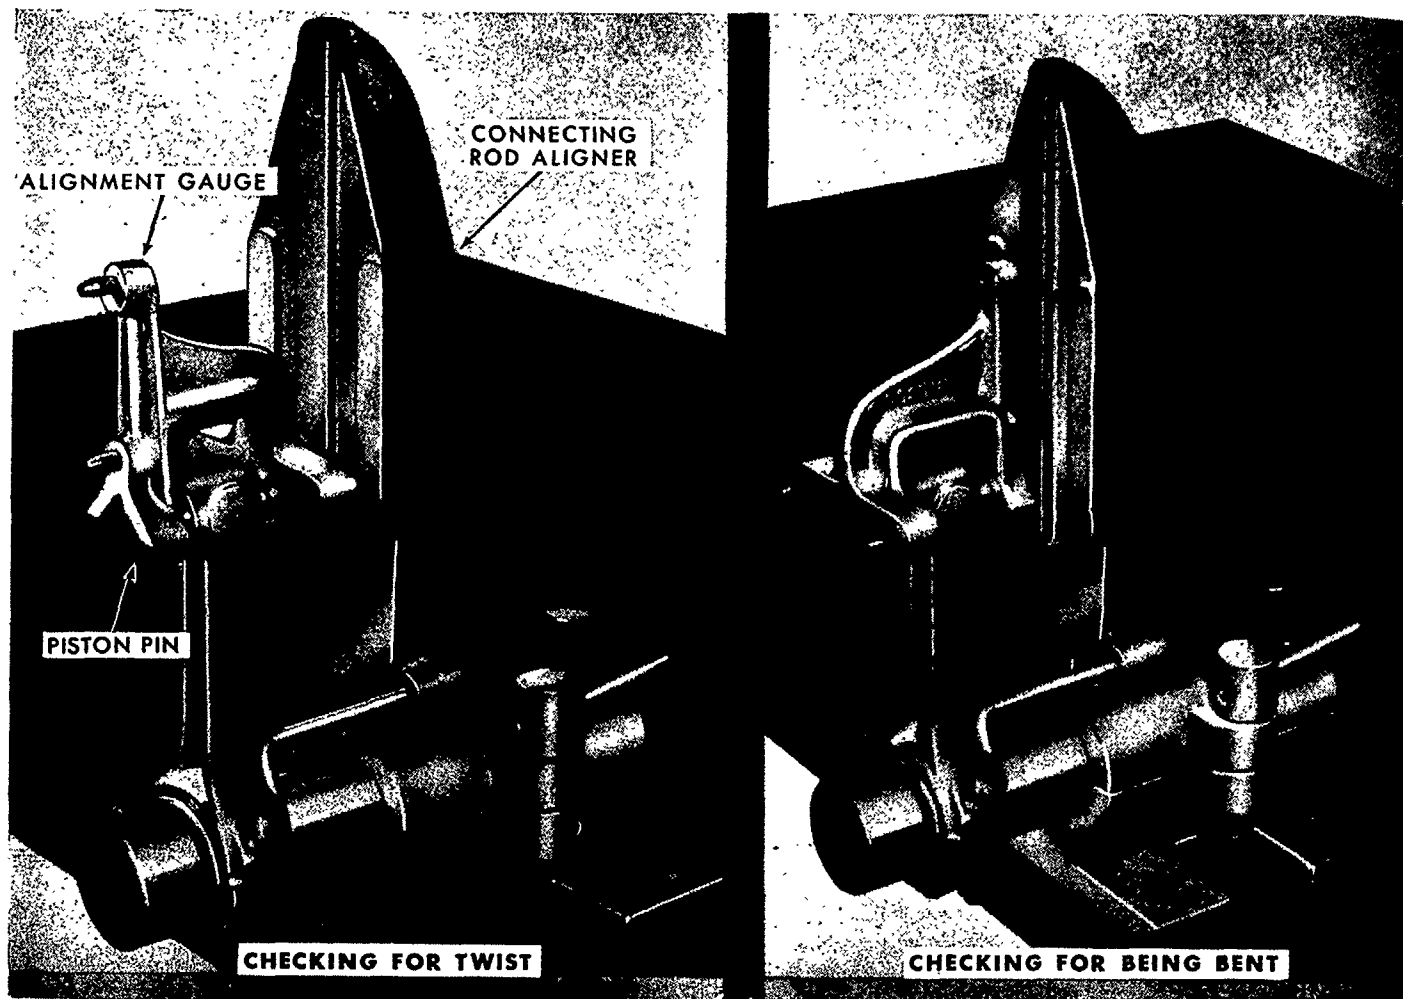

Figure 49
1. Place each connecting rod in an alignment fixture, as shown in Figure 49.